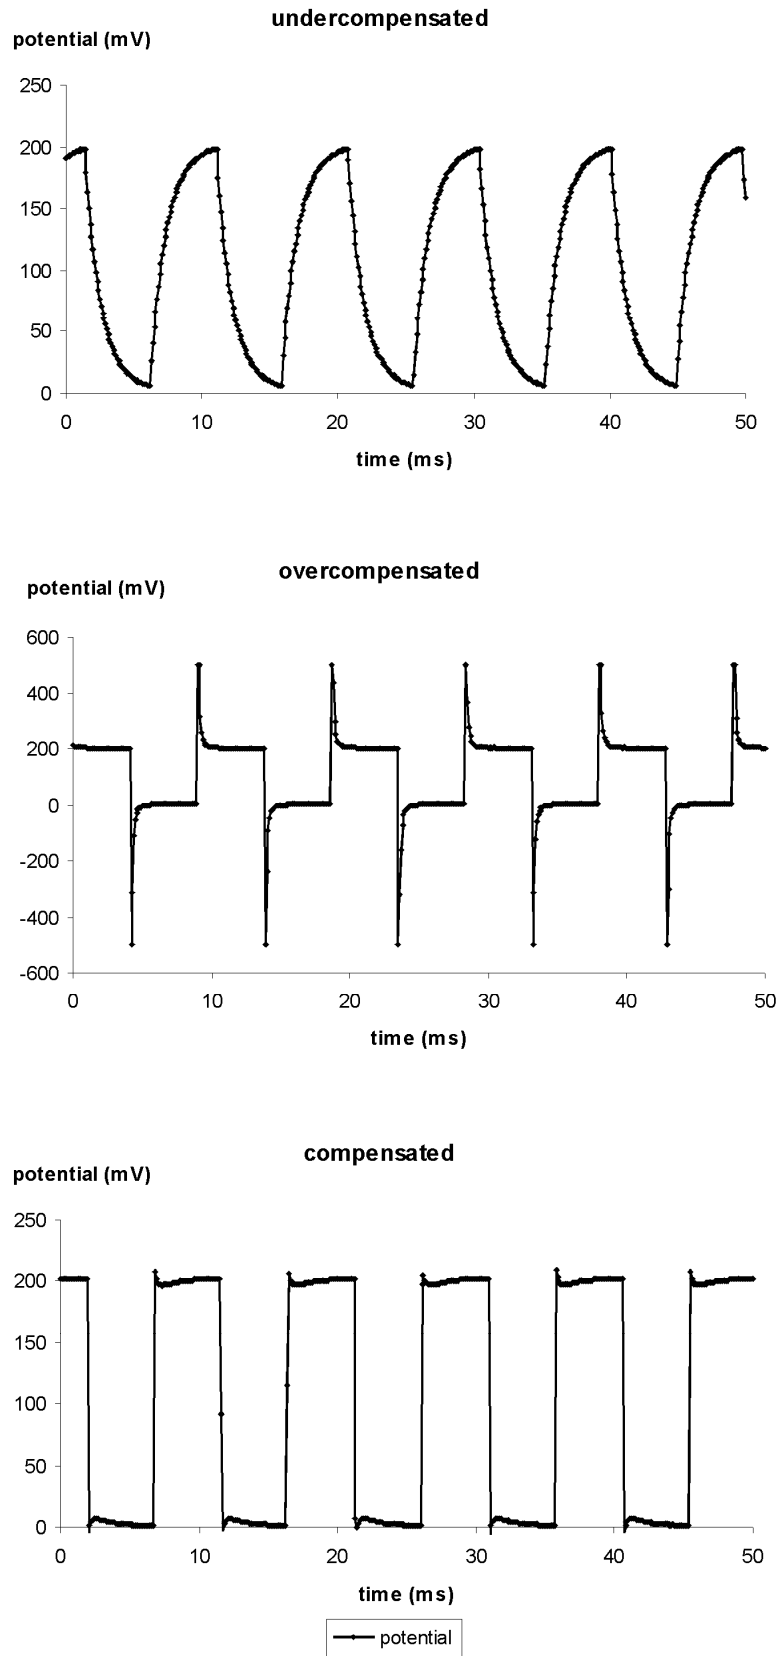

Figure 9: Tuning of the capacitance compensation using a 100 MΩ resistor
With the cell model connected or the electrode in the bath the CAPACITY COMP. control is turned clockwise until there is no artifact on the POTENTIAL OUTPUT (see Figure 9).
- Compensate the input capacitance as shown in Figure 9 using the CAPACITY COMP. potentiometer (#17, Figure 1).
Figure 9 illustrates the capacitance compensation procedure using a 100 M Ω resistor that represents the electrode. The pulses were generated using the automated electrode resistance test circuit of the BA-01X. The upper diagram shows an undercompensated capacitance. In the diagram in the middle the capacitance is slightly overcompensated and in the lower diagram it is well compensated.
- Immerse the electrode into the bath (not in a cell) as deep as necessary during the experiment. Test the capability of the electrode to carry current (see chapter 7.4), compensate the potential offset (see chapter 7.2), measure the electrode resistance (see #10, chapter 3.2) and compensate the input capacitance (see chapter 7.3 and Figure 9).